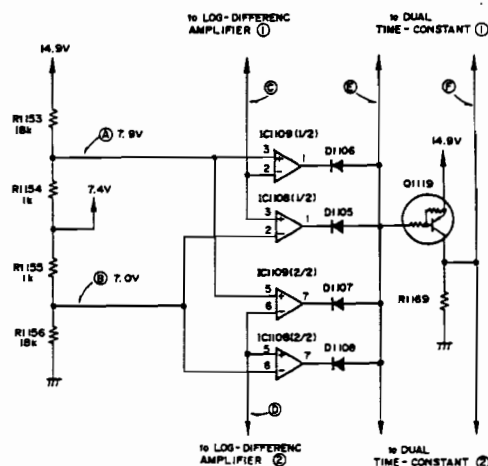

Figure 10-4. Threshold switch
4. Observes DC voltage of ① and ② of the LOG-difference amplifier output at the points ③ and ④ of the threshold switch (see Figure 10-4). When the DC voltage value becomes 7.8V and larger or 7.0V and less, ③ of the threshold switch will be set to "L" (approx. 0.6V) and ④ will be set to "H" (approx. 14V).
The threshold voltage 7.8V and 7.0V which set ③ to "L" and ④ to "H" are decided by the reference voltage indicated in ⑤ and ⑥ of Figure 10-4.